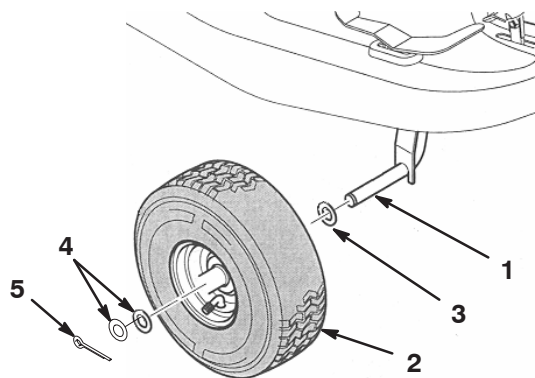

Figure 1
1. Slide a flat washer (M16, 3mm thick) onto each spindle (Fig. 1).
2. Mount the wheels and secure each of them with 2 spacers (M16, 1 mm thick) and a cotter pin (Fig. 1).